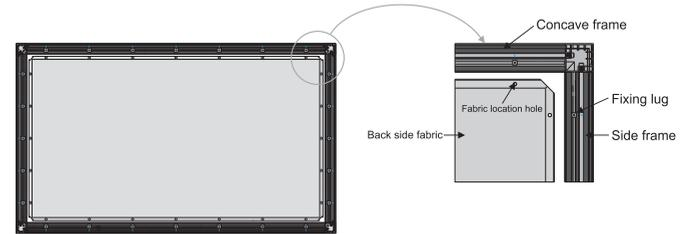

Figure 12
3. Align the fixing lugs as arrows indicate. (Figure 12)